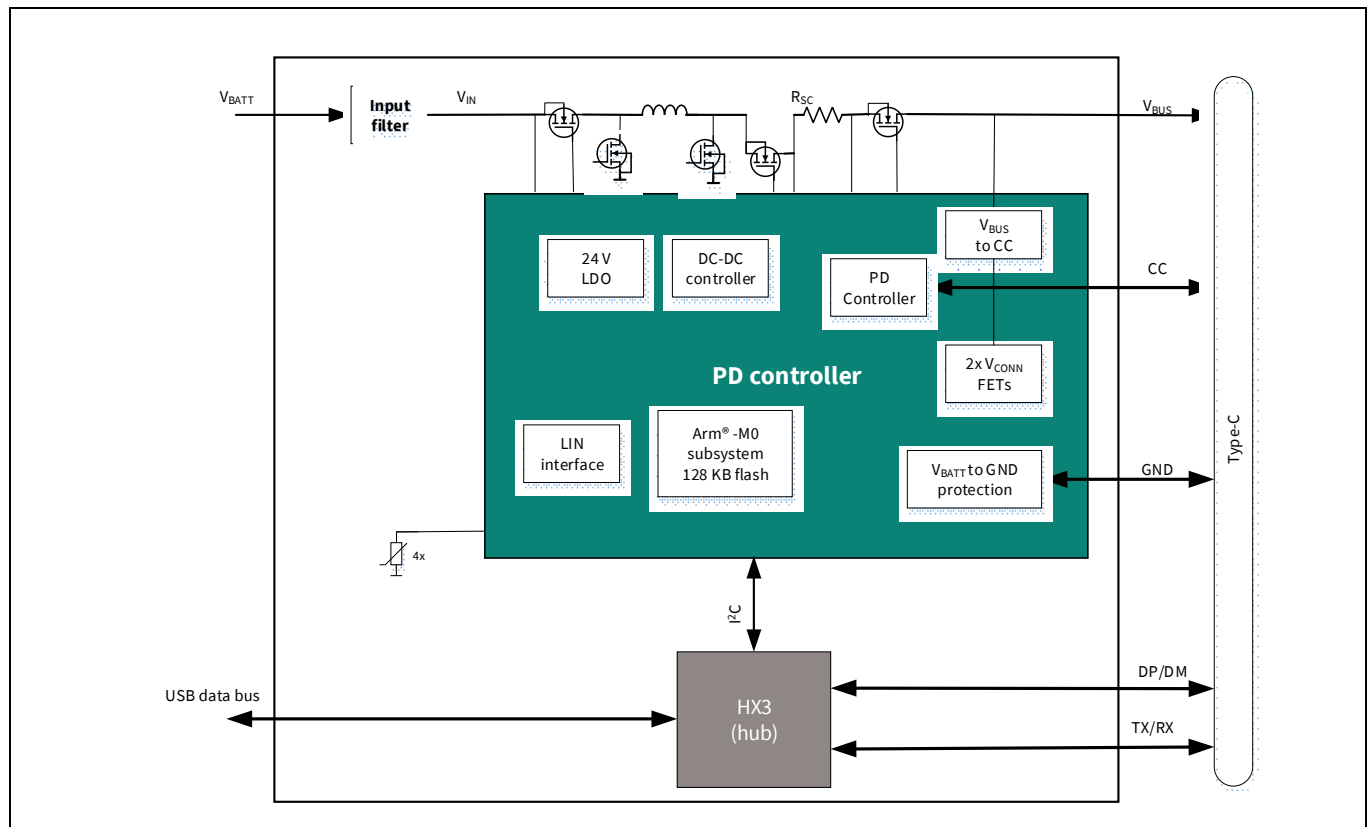

Figure 2 Automotive head unit application
The automotive infotainment applications as shown in Figure 2.
EZ-USB™ HX3 Automotive with Power Delivery (PD) Figure 2 illustrates the overview of Automotive head unit application with HX3 hub and Infineon Power Delivery (PD) controller. HX3 can be used for two to four downstream ports with data and various charging protocols.
The shared link mode requires a separate VBUS control for the removable USB 2.0 device and the embedded SS device. **Figure 2** shows the VBUS control implementation.